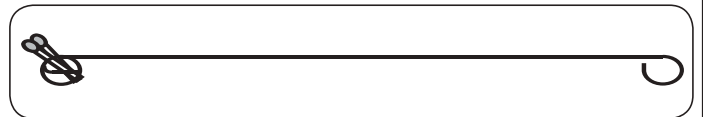

Fig. 15-2 - Match holder
2. Insert either a burning long-barrel butane lighter, a burning long-stem match, or a burning match held by a wire extension holder (Fig. 15-2) through the cooking grids to the burner (Fig. 15-3). Hold the flame against the edge of the burner.